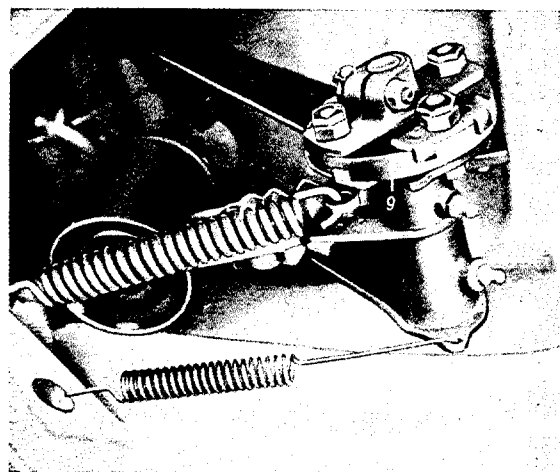

Fig. Ku 6a/3
3. Loosen nuts fastening flange (8) to shaft plate (9). See Fig. Ku 6a/3).
Note: In case the clutch pedal shaft is not removed completely, the shaft plate with flange can also be loosened at the clutch pedal arm (see Fig. Ku 6a/4).